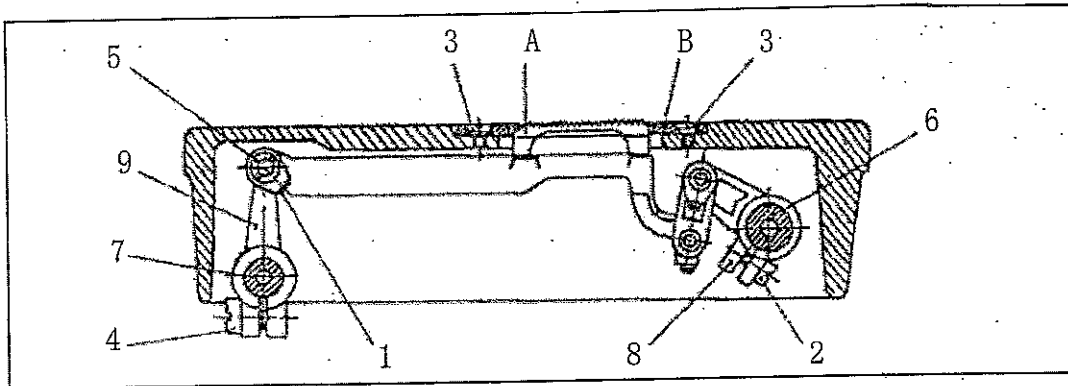

Fig.17
25. The feed dog height adjustment (Fig.17)
26. The feed dog obliquity adjustment(Fig.17)